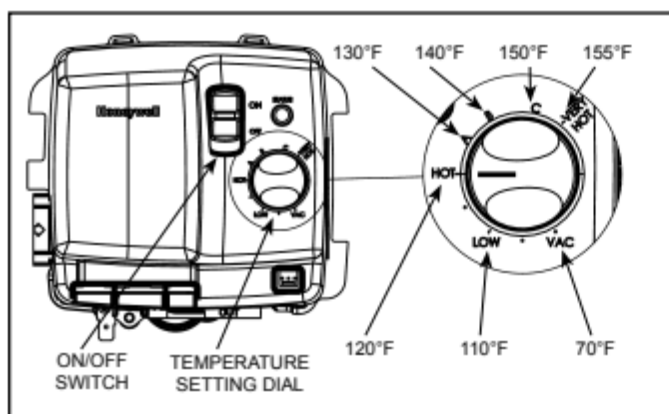

Figure 49.
This water heater is equipped with an adjustable thermostat to control water temperature (see Figure 49). Hot water temperatures required for automatic dishwasher and laundry use can cause scald burns resulting in serious personal injury and/or death. The temperature at which injury occurs varies with the person's age and time of the exposure. The slower response time of children, aged or disabled persons increases the hazards to them. Never allow small children to use a hot-water tap, or to draw their own bath water. Never leave a child or disabled person unattended in a bathtub or shower.
The thermostat settings on the gas control valve are shown in Figure 49.
1. Turn the thermostat on the gas control to the lowest setting. If the heater is running, wait for it to shut down (see Figure 49).